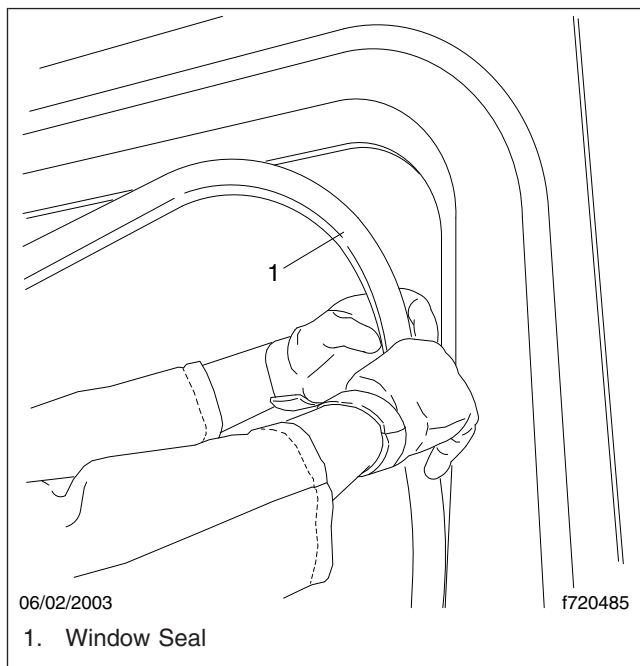

Fig. 2, Remove/Install the Window Seal
- 6.2 Pull the door-window seal down and back towards the rear of the cab to remove it. See Fig. 2.